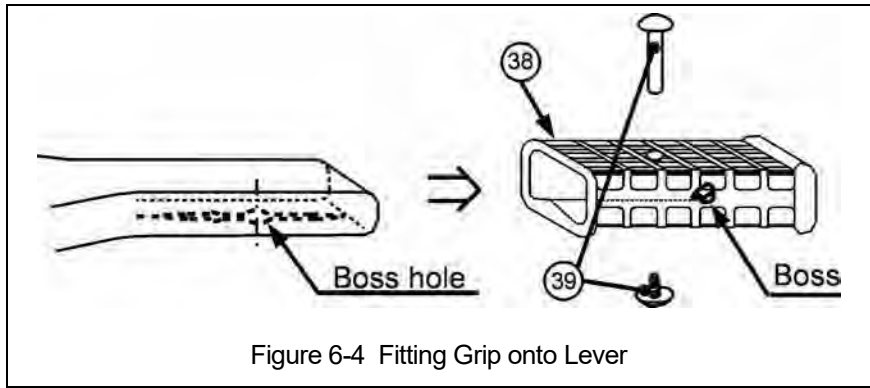

Figure 6-4 Fitting Grip onto Lever
- 4) Refer to Figure 6-4 and place (38) Grip on Lever with its inside boss aligned with the boss hole in the Lever. Make sure boss of (38) Grip is completely seated into the boss hole of the lever.
- 5) Firmly install (39) Binding Screw through the Grip and Lever Assembly.